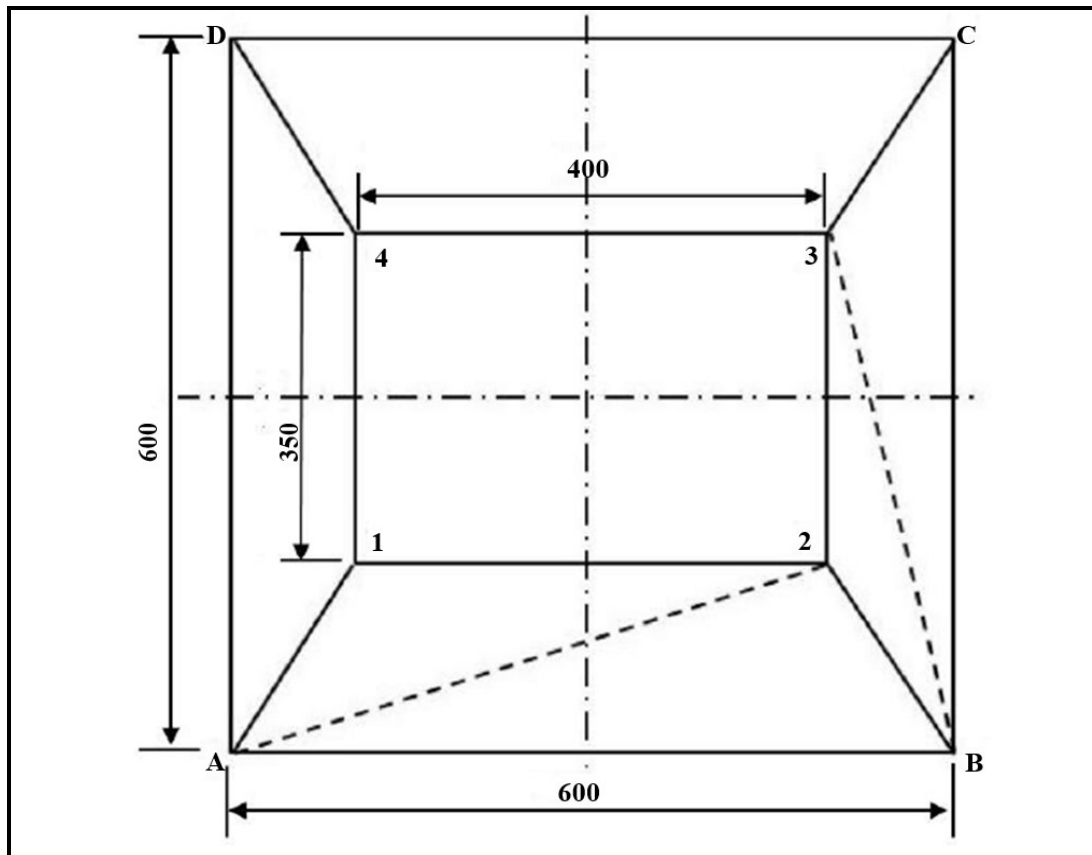

FIGURE 11.3
11.3 FIGURE 11.3 below shows the top view of a hopper with a vertical height (VH) of 450 mm. Answer the questions that follow.